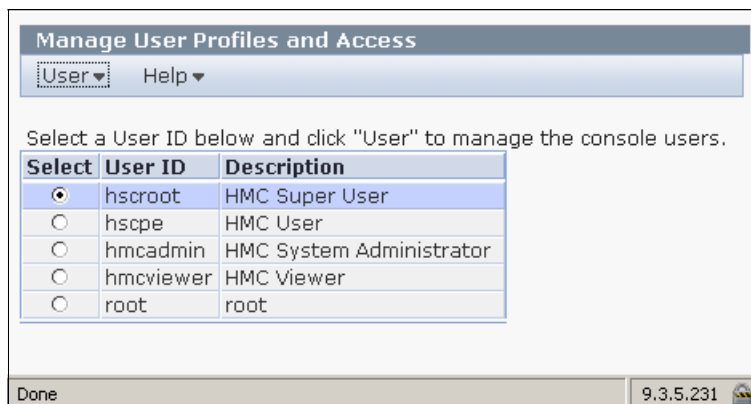

Figure 5-16 User Profiles user ID list updated
3. Click **OK** to create a new user. The new user ID is added in User profiles window as shown in Figure 5-16.